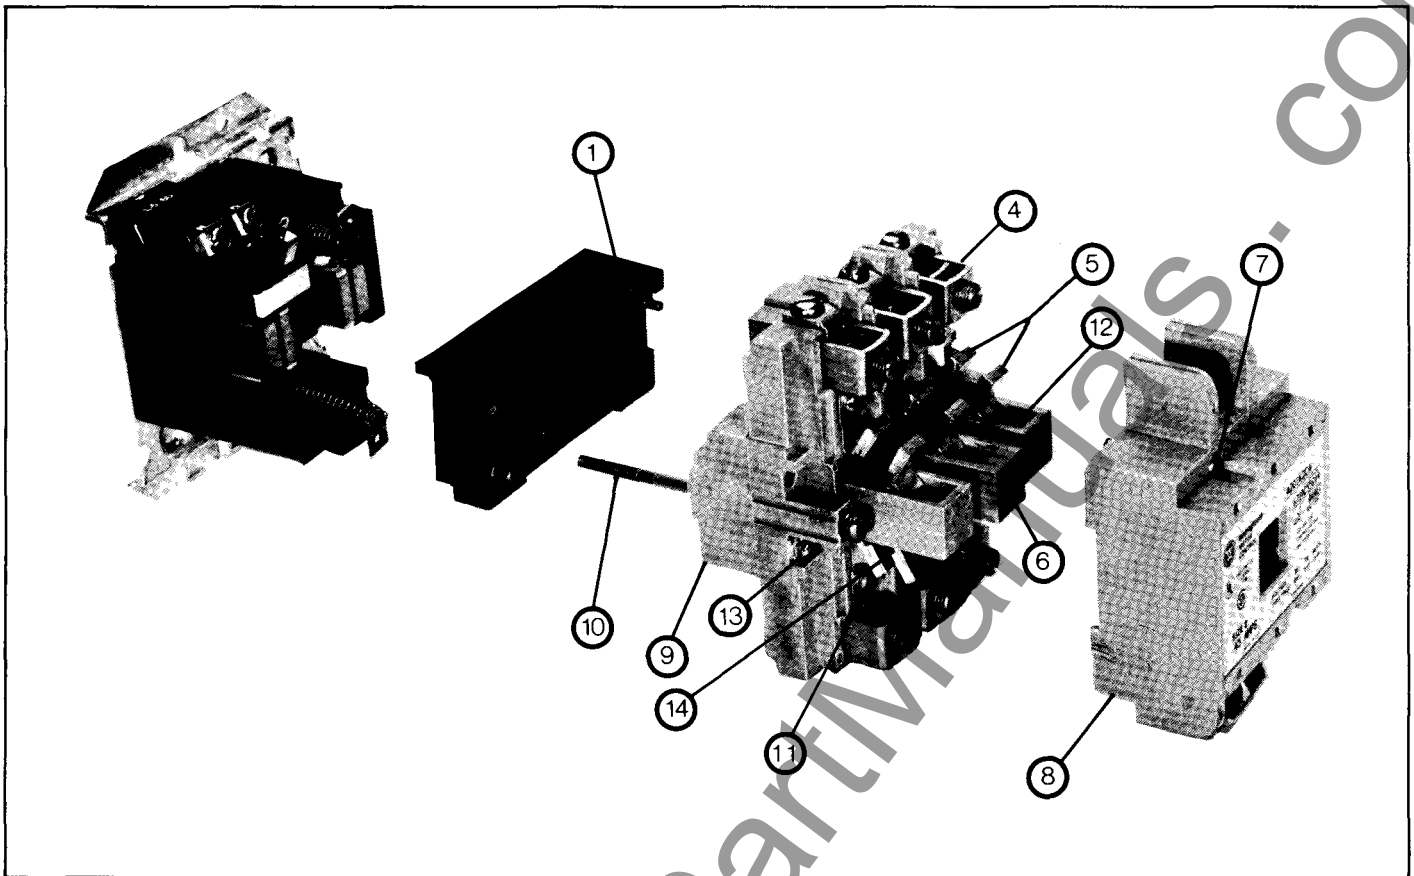

Fig. 7 Size 2 A200 Contactor (Exploded View)
Refer to Figure 7. Loosen the two arc box assembly screws (7) located immediately above and below the nameplate and remove the arc box (8). Contacts (5) are visible. Retighten the screws per Table V.
Refer to Figure 7. Loosen the assembly screws